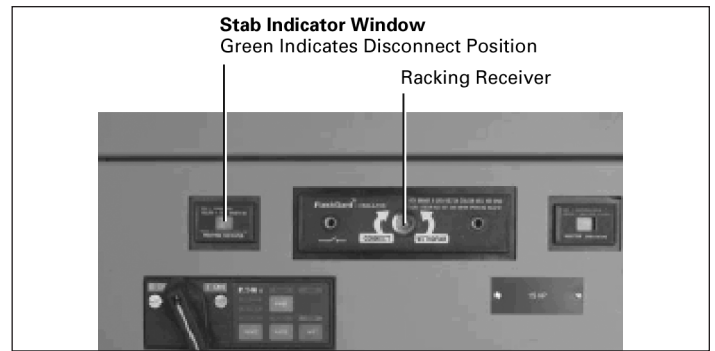

FIGURE 14. STABS IN DISCONNECT POSITION
1. Prior to installation of the unit, verify that the unit stabs are fully withdrawn and the internal shutters are closed (**Figure 14**). The Unit Latch at the top of the bucket needs to be flush with the top of the bucket to prevent interference with the divider pan when installing the bucket. The unit operator needs to be in the OFF position and the unit latch should be turned down so the metal tab on the left side of the unit is inside the unit. This will prevent any interference with the structure frame when installing in the structure.